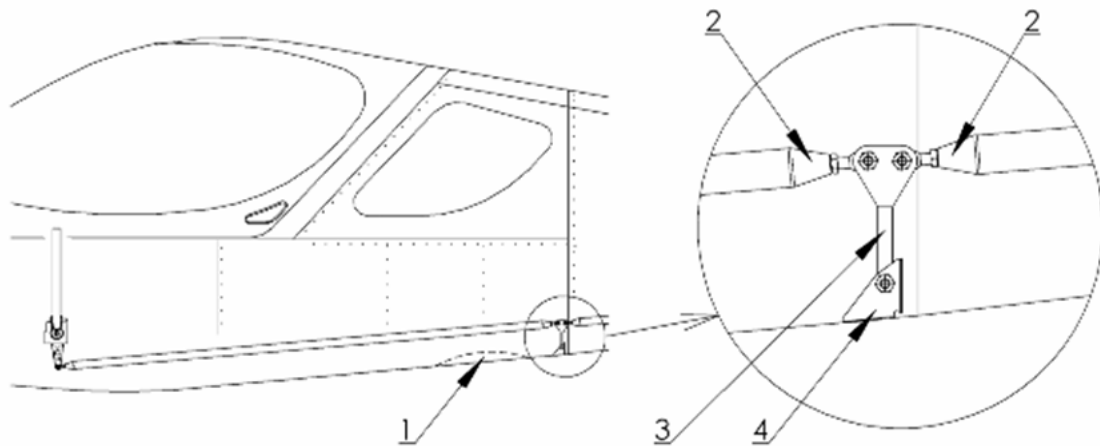

Fig. 6-12
Bail arm attachment is shown on Fig. 6-12.
Attachment of the bail arm lever is shown in Fig. 6-12.
- (b) Set the bail arm lever (3) to the position (see Fig. 6-12), insert the bolt into the hole in the lever and the hinge (4) and secure it with the castle nut and cotter pin. Tighten the nut slightly.